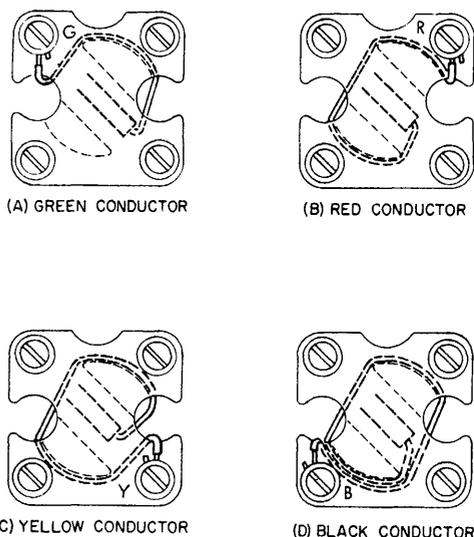

Figure 26. Terminating Station Wire on Number 39-M or 42A Connecting Block (Wire Entry from Side Opposite to Cord Entry.)
7.03 Station wire may be routed to a number 39-M or 42A block from the top, bottom, either side, or from a hole located under the block. In the case of jacketed wire, approximately 7 inches of free conductors should be left beyond the end of the jacket. If the wire approaches from the direction opposite to the point of line cord entry, the jacketed or twisted portion should pass between the mounting bosses. The jacket should extend only to the lower end of the channel thus formed. On number 39-M blocks, the channel has a more pronounced slope from upper left to lower right, so the wire must enter slightly off center. Fan the green and yellow conductors to the right at the bottom of the block, and the red and black conductors (if present) to the left. Bring the green conductor (Figure 26) up the right hand side and under the edge of the fanning slot, out the slot to the surface of the block, and up to terminal G. Route the red conductor up the left hand side, across the top, down the right hand side, out the fanning slot, and up to terminal R. Run the yellow conductor completely around the block in a counter clockwise direction, then up the right hand side, out the fanning slot and down to terminal Y. If a black conductor is present, make one complete turn around the block in a clockwise direction, then pass up the left hand side, out the fanning slot and down to terminal B (which in this case stands for black, rather than blue). With the wires thus securely anchored to the block no staple or other fastener is required to stabilize the wiring at this point.